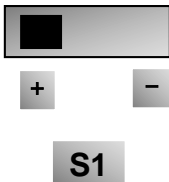

Figure 8-6
- vii. There is a toggle switch S1 at the side of control terminals, please refer to Fig 8-6. S1 is used to select the voltage input range of AI1 channel. When turning S1 to "+", the input range is 0~10V, when turning S1 to "-", the input range is -10~10V.